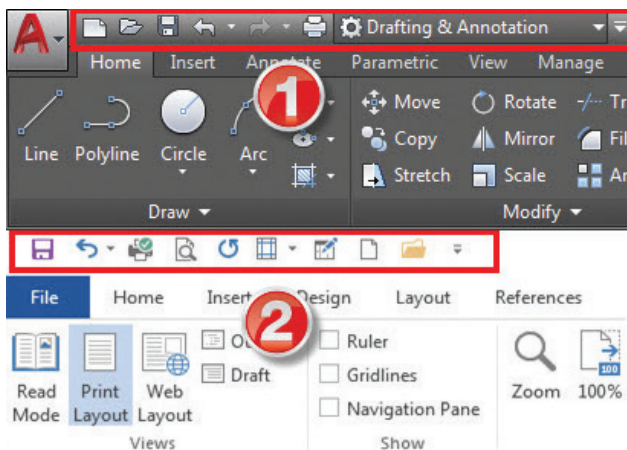

Figure 1: Quick Access toolbars
Figure 1 shows the QAT in Autodesk AutoCAD (1) and then again in Microsoft Word (2). The Quick Access Toolbar is a customizable toolbar that contains a set of commands grouped together. The QAT, by default, is found in the upper-left corner of the application window. Many people use the QAT for printing, saving, and opening files—the basic commands we all need. AutoCAD gives us the ability to customize the QAT to a new level. You can right-click to add a command, create a custom command, or even add a macro with a custom button to launch from the QAT. In this article we are going to explore how to turn the QAT from a part-time user to a full-blown productive application.